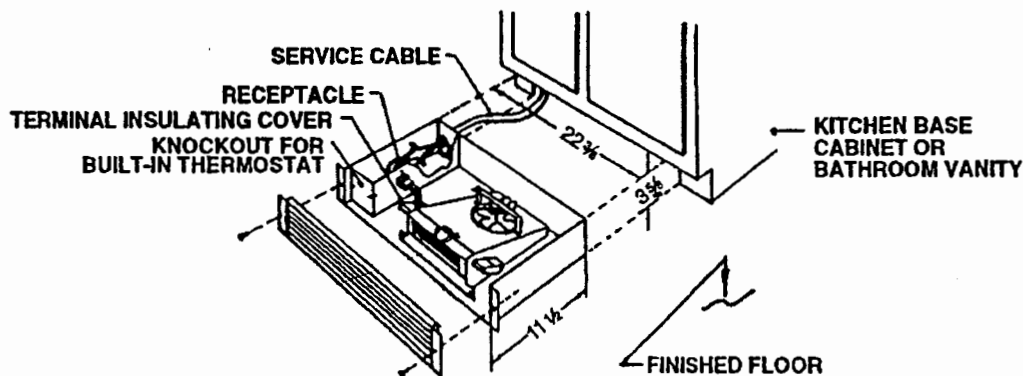

FIGURE 1
2. CUT 22 3/8" BY 3 5/8" OPENING IN KICKSPACE AS SHOWN IN FIGURE 1.